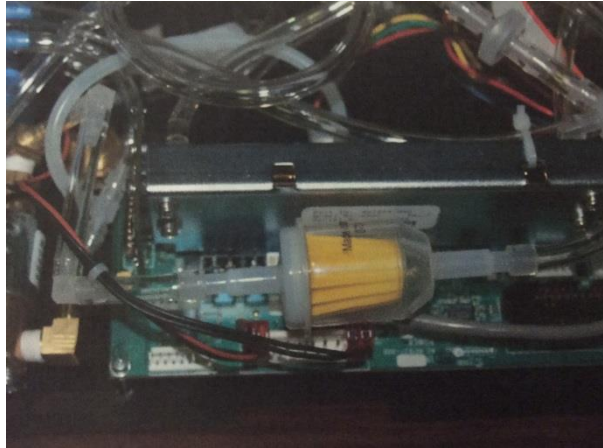

Figure 4: Internal inline filter
- Internal inline filter (Figure 4)